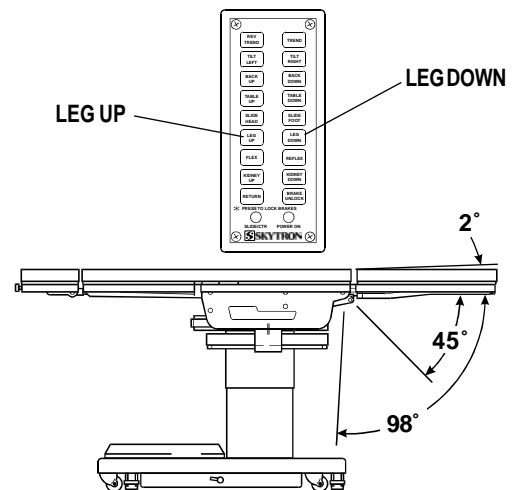

Figure 2-9. Leg Section Positioning
g. **Leg Section.** To lower the leg section, press the LEG-DOWN button (figure 2-9). The leg section will go down to 98° below horizontal. To raise the leg section, press the LEG-UP button. The leg section will go up to 2° above horizontal.